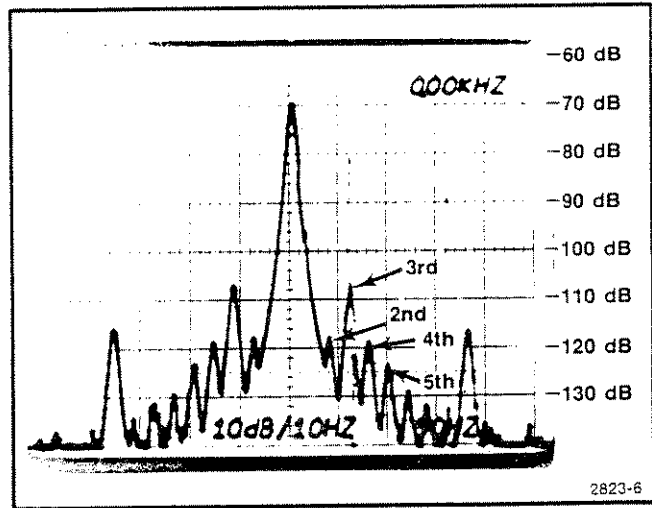

Fig. 4-3. 20 Hz harmonic distortion display.
- l. CHECK— that the calculated thd is less than -102 dB (see Fig. 4-3 for harmonics at 20 Hz).